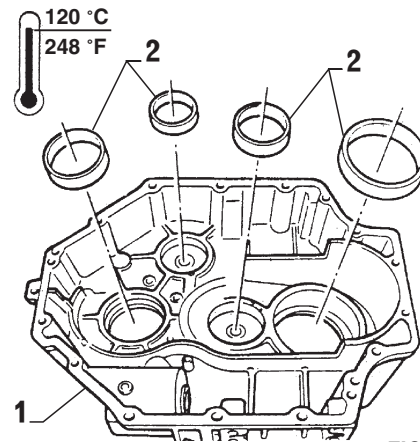

FIG. 4-1
Heat "output" half of the housing (item 1, Fig. 4-1) in an oven to approx. 120°C (248°F).
Insert outer races (item 2, Fig. 4-1) into housing.